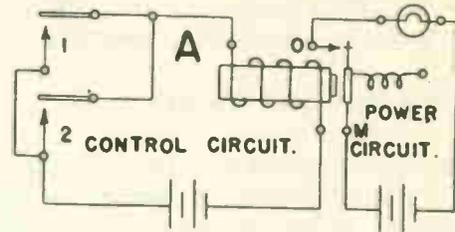

Fig. 5
- b. The same relay used to control a high energy circuit by means of a low energy circuit, Fig. 5.